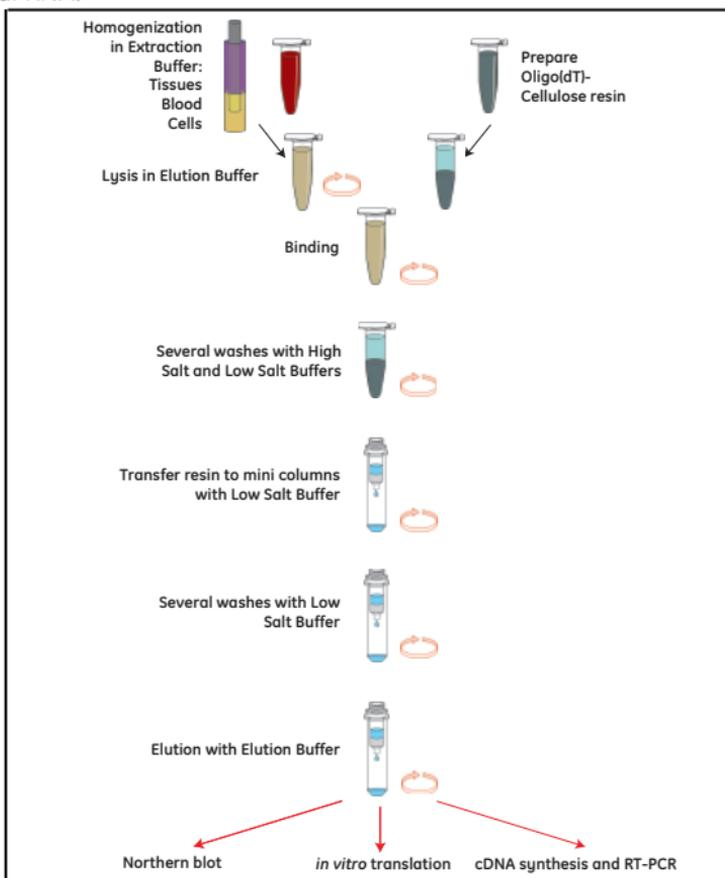

Figure 4.1. Overview of the **QuickPrep Micro mRNA Purification Kit** procedure
The protocol for mRNA purification using a microcentrifuge is given in Section 7 and is outlined in Figure 4.1. The following summarizes the steps involved when using this protocol. Briefly, the tissue or cells are extracted in a buffered solution containing a high concentration of GTC, ensuring the rapid inactivation of endogenous RNases. The extract is then diluted with Elution Buffer, reducing the GTC concentration to a carefully selected level - low enough to allow efficient hydrogen bonding between poly(A) tracts on the mRNA molecules and Oligo(dT) attached to cellulose, but high enough to maintain complete inhibition of RNases. The dilution causes a number of proteins to precipitate, giving an initial purification.